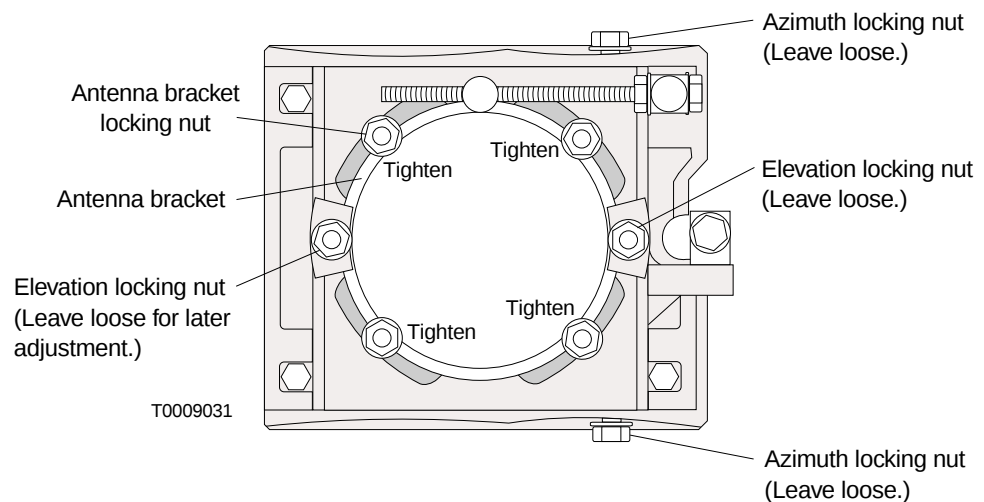

Figure 4-17 Antenna bracket locking nuts (and other nuts)
4. **When the elevation is properly adjusted, tighten the four antenna bracket nuts to 16 foot-pounds torque (21.7 Newton-meters). See figure 4-17.**
1. **When both azimuth and elevation are adjusted correctly, tighten the azimuth and elevation locking nuts (figure 4-17) to 16 foot-pounds (21.7 Newton-meters) torque.**